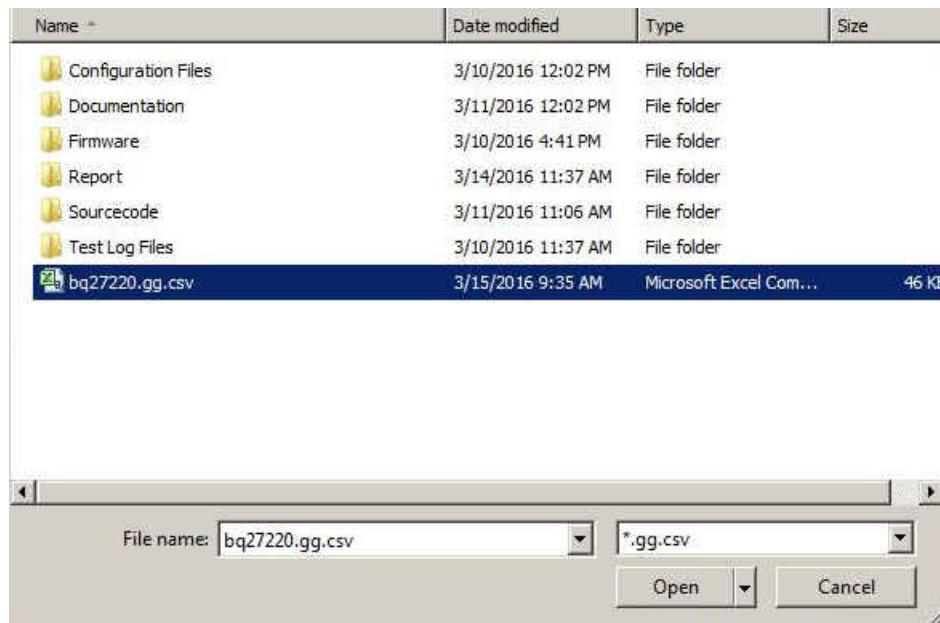

Figure 8-4. Load .GG File
1. Browse to a desired template or sample *.GG parameter file. (Example: BQ27220.gg.csv in Figure 8-4.)